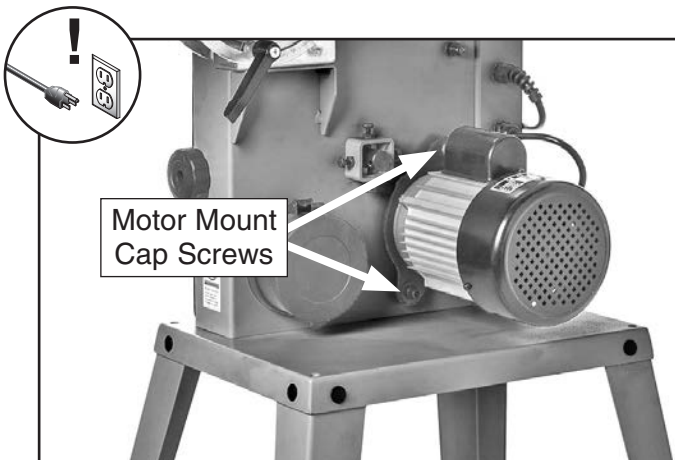

Figure 48. Location of motor mount cap screws.
2. Loosen (2) motor mount cap screws (see **Figure 48**), and pivot motor counterclockwise to release belt tension.